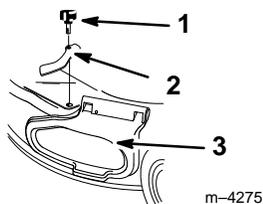

Figure 31
- Remove the knob and side cover clamp (Fig. 31).
2. Remove the knob and side cover clamp, then replace the knob in the hole and save the clamp for future use (Fig. 31).
3. Lift up on the side opening cover (Fig. 31).